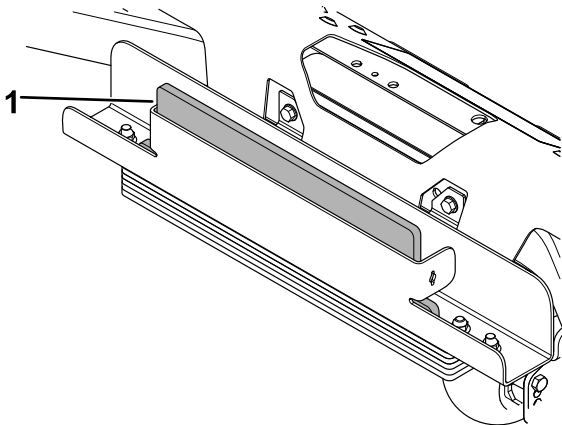

Figure 3
3. Install the plate at the front of the weight tray (Figure 3).